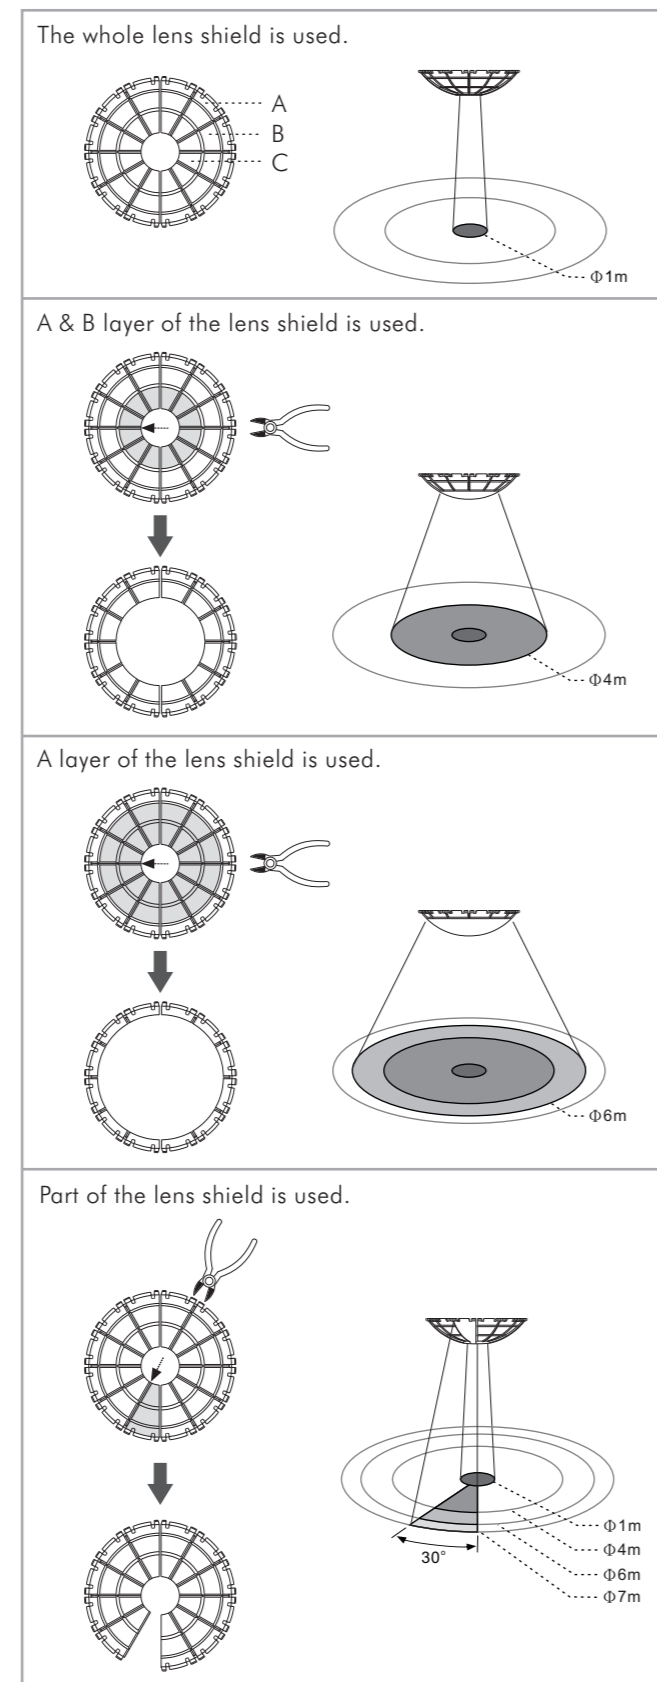

FIG. 17
- The shadow part of the lens shields in the FIG.17 is referring to the cut off parts.